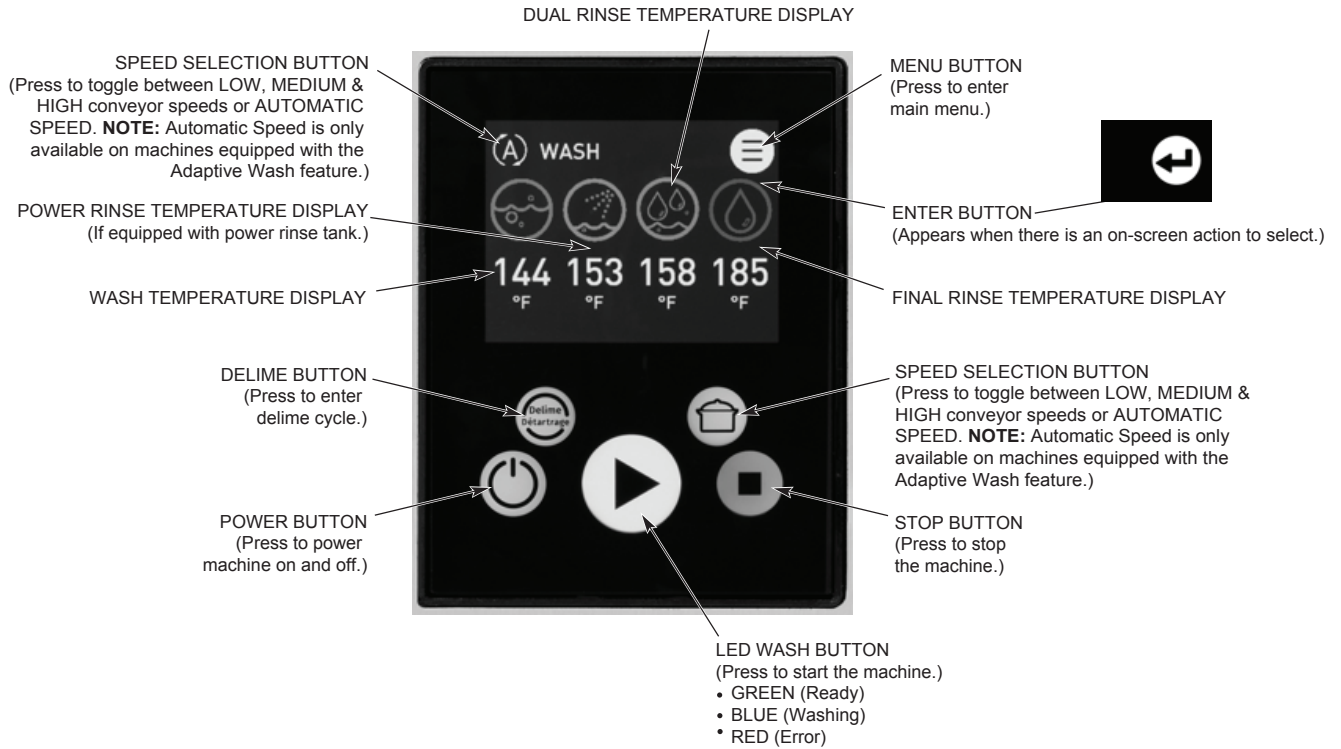
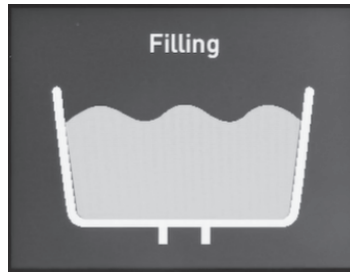
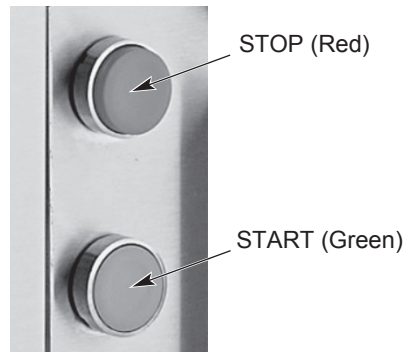

Fig. 7
Fig. 9
Fig. 10
The controls are mounted on the front of the dishwasher in the control box. The controls screen and display are mounted on the front of the control box (Fig.7)
Press the POWER button located on the controls screen on the front of the control box (page 14, Fig. 7) to power the machine on and start filling the tanks. The display will light up, and the machine will fill automatically. The tank filling image will display while the machine is filling (Fig. 9).
Start the dishwasher by pressing the green START button located at either the load or unload end of the machine (Fig. 10) or the WASH button located on the controls screen on the front of the control box (page 14, Fig. 7). The machine will operate only if the tanks have filled to the proper level and all doors and load and unload end panels are closed. Press the red STOP button located at either the load or unload end of the machine (Fig. 10) or the STOP button located on the controls screen on the front of the control box (Fig. 7).
Depending on the type of ware being washed, the conveyor speed can be adjusted by pressing one of the SPEED SELECTION buttons located on the controls screen on the front of the control box (page 14, Fig. 7). The current speed selection is shown in the upper left corner of the display. Pressing the SPEED SELECTION button will toggle to the next available speed which is displayed by the corresponding icon as shown below.
1. Press the DELIME button located on the controls screen on the front of the control box (page 14, Fig. 7).